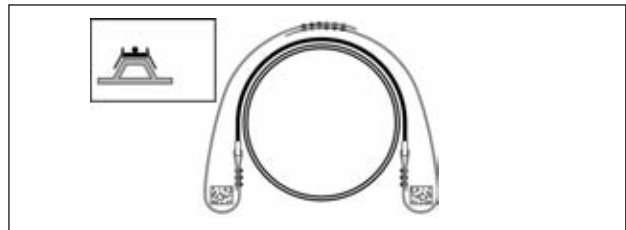
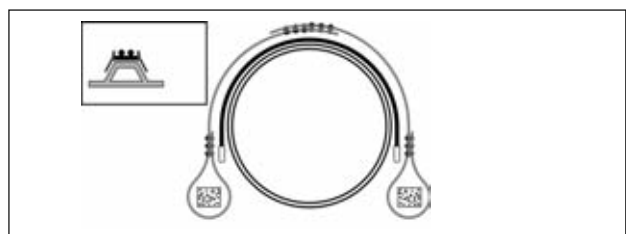

FIGURE 7-6
FIGURE 7-7
7.8.1.2. The H-shaped positioning clips around the strap are designed to accommodate the wire rope on top of the strap as shown in FIGURE 7-6 and FIGURE 7-7.
7.8.1.3. The following method is shown in FIGURE 7-6:
7.8.1.4. The following method is shown in FIGURE 7-7: